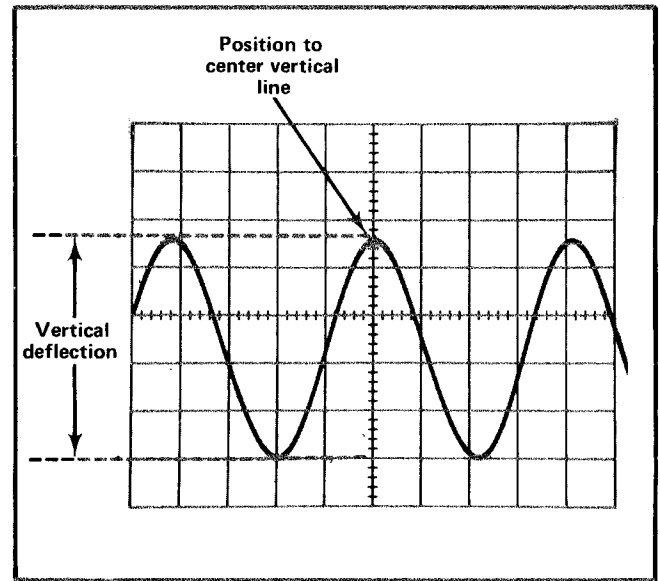

Fig. 2-1. Measuring the peak to peak voltage of a waveform.
5. Turn the 7A19 POSITION control so the lower portion of the waveform coincides with one of the graticule lines below the center horizontal line, and the top of the waveform is within the viewing area. With the time base Position control, move the display so one of the upper peaks lies near the center vertical line (see Fig. 2-1).